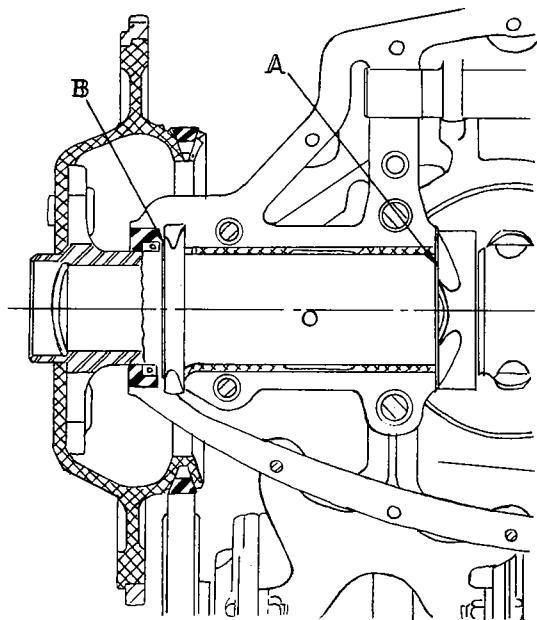

Figure 7-24. Checking Crankshaft End Clearance
- 7-82. See figure 7-24. If either the crankcase or crankshaft has been replaced, the crankshaft end clearance must be checked. When crankshaft is located in the left crankcase half, push the crankshaft forward as far as possible. Check the clearance, at the rear of the front main bearing surface, between the crankcase and crankshaft shoulder. (Point "A"). If clearance exists between crankcase and crankshaft thrust surface